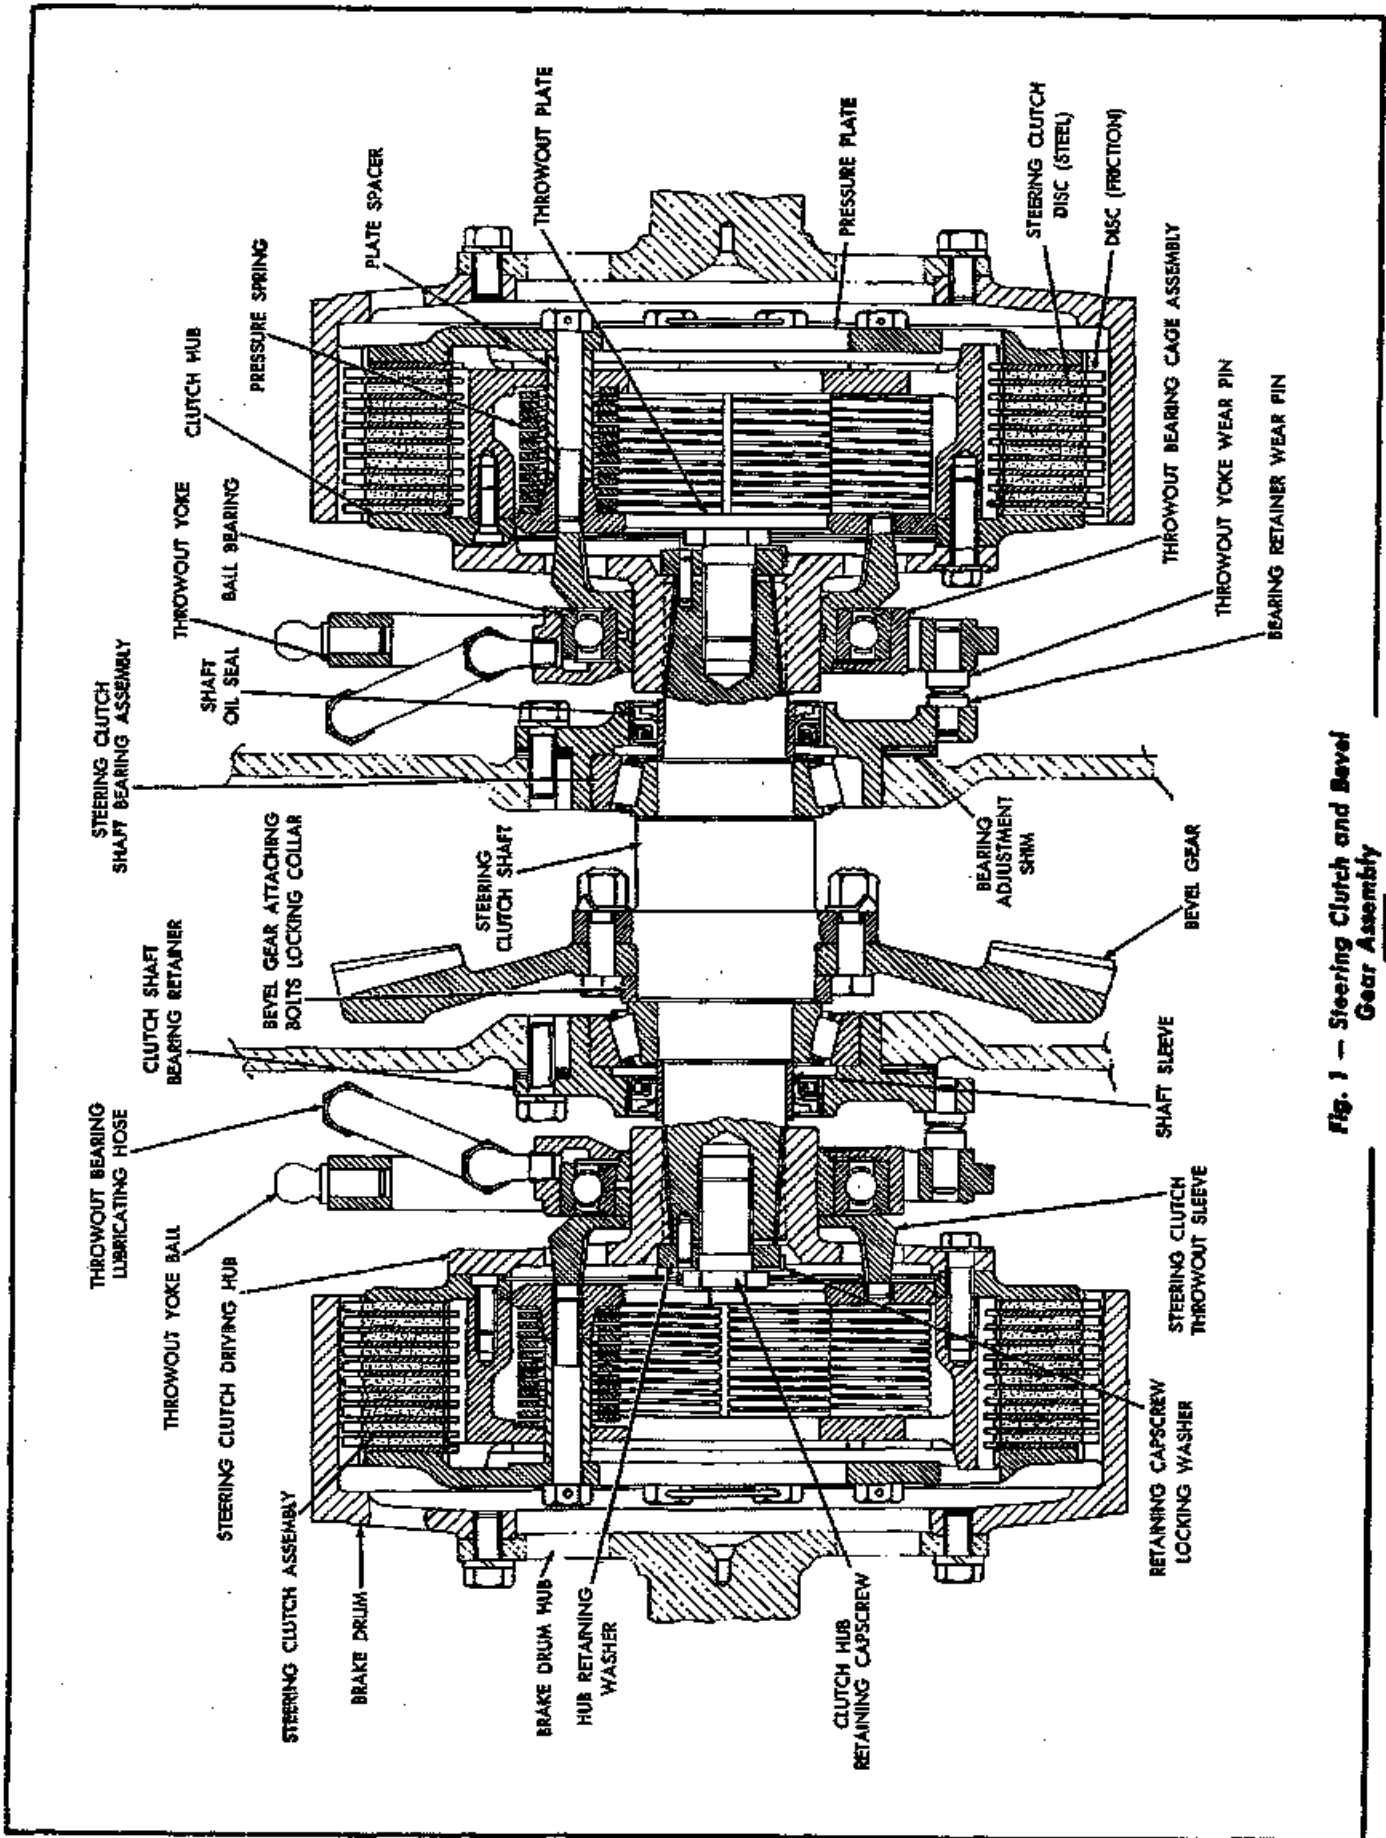

Fig. 1 - Steering Clutch and Bevel Gear Assembly
- b. Turn the intermediate lever shaft (right shaft clockwise, left shaft counterclockwise) so that the clutch throwout yoke moves the throwout sleeve (Fig. 1) over and the sleeve is contacting the steering clutch throwout plate (Fig. 1).